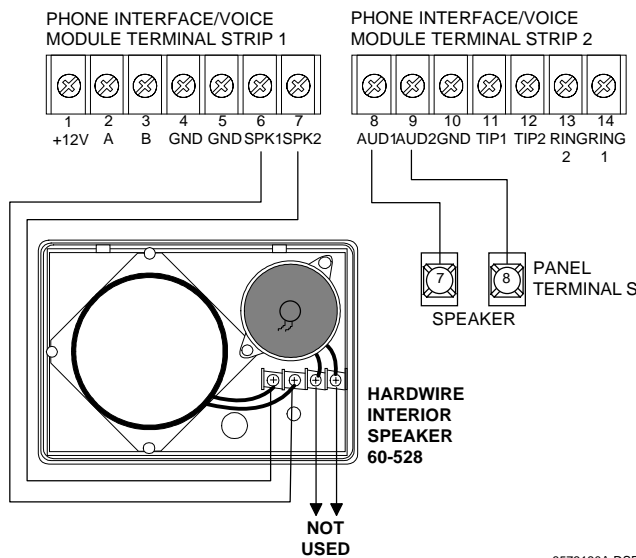

FIGURE 2-18. Wiring the Hardwire Interior Speaker.
3. Connect an interior speaker to the module terminals as shown in Figure 2-18.